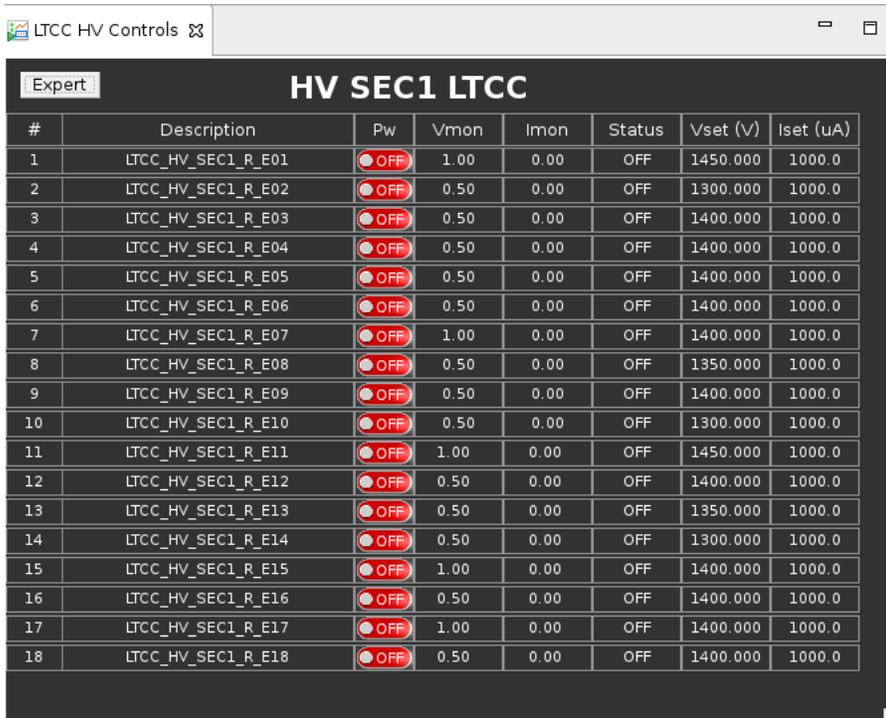

Figure 7: LTCC HV novice channel controls screen.
If the “Controls” option is selected for a sector or a left/right part of a sector, a “novice” window is opened as shown in Fig. 7. This window shows the monitored channel voltage and current (V_{mon} (V) and I_{mon} (μA)), the channel status (OFF, ON), and the set channel voltage and current (V_{set} (V) and I_{set} (μA)). If desired, shift workers can toggle the HV settings for single channels on or off through this interface.